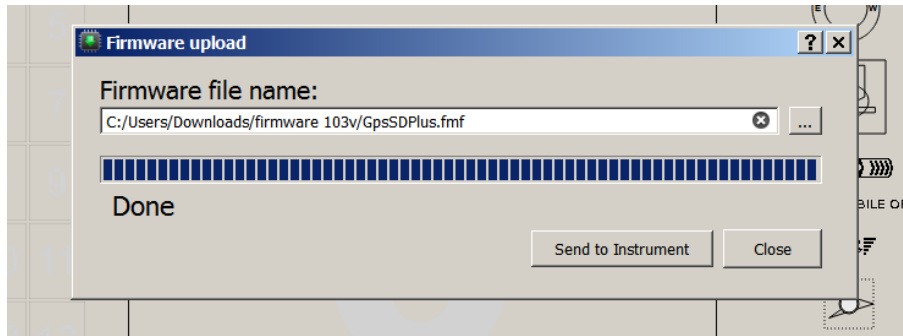

Figure 7.2: Firmware Update Done
6. When the process is finish the application shows a message saying *complete* (see Figure 7.2). Disconnect the USB cable and the NAV SD will start to work.